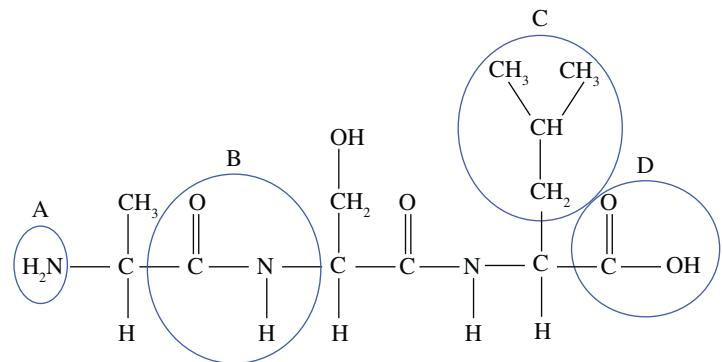

FIGURE 15.2.10 A tripeptide molecule.
- 2** Figure 15.2.10 shows a tripeptide molecule.